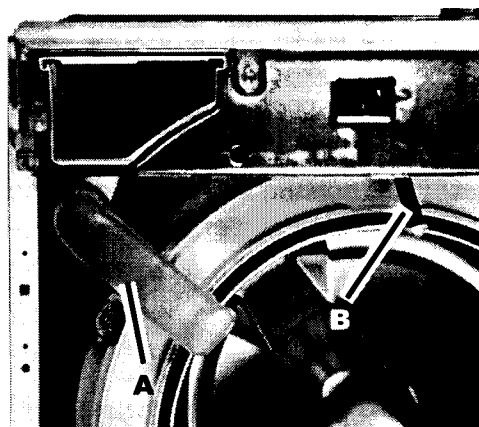

Fig. 2-5
1. Main Inlet Tube (Fig. 2-5, A)
2. Window Washer Inlet Tube (Fig. 2-5, B)